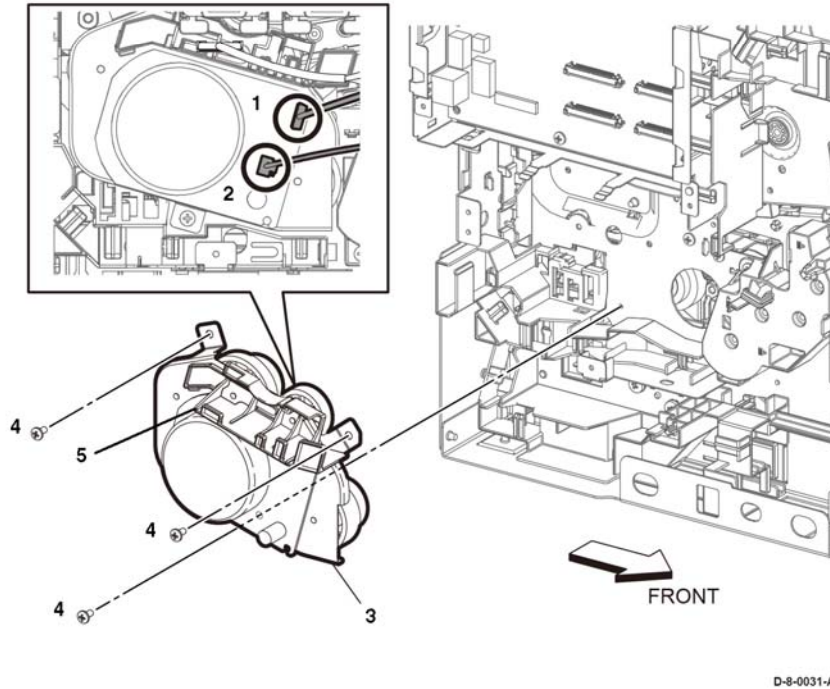

Figure 1 Drive 2 motor assembly removal
15. Remove the main 3 drive assembly, Figure 1:
- a. Release the harnesses from the harness guide (1).
- b. Remove three screws (2), then remove the drive 2 motor assembly (3).